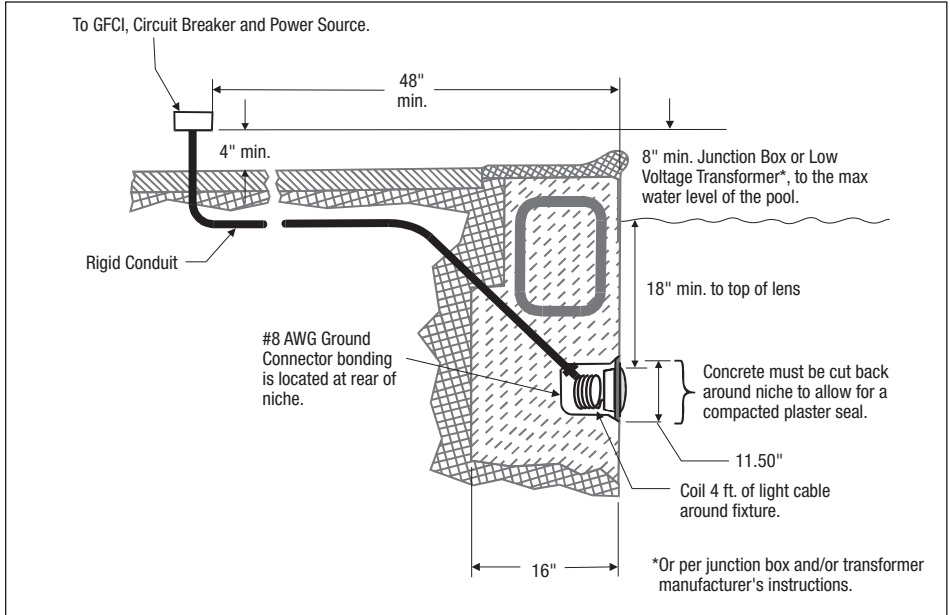

Figure 1. Jandy Digital Color Light Installation
NOTE: The electrician must complete preparatory steps before light fixture is installed. See *Figure 1*.
1. Feed cord through conduit to junction box, leaving at least four (4) feet of cord at the light fixture to coil into the base of the light niche, see *Figure 1*. The four (4) feet of cord allows the light to be serviced after the pool is filled with water.
2. Cut the cord at the junction box, leaving at least six (6) inches of cord to make connections.
3. Strip six (6) inches of the outer cord jacket to expose the three insulated wires. *Be careful not to damage the insulation on the three (3) inner wires.*
4. Install strain relief over cord jacket and connect all three (3) wires to the corresponding circuit wires in the junction box. Install the junction box cover.
2. The junction box (or, for 12 volt models, the low voltage transformer) must be located at least eight (8) inches above water level, at least four (4) inches above ground level or pool deck level, and at least 48 inches from the edge of the pool or spa. See *Figure 1*.
3. The light fixture and all metal items within five (5) feet of the pool must be properly electrically bonded to a reliable point of grounding.
4. The wet niche must be properly installed so that the top edge of the underwater light's lens is at least 18 inches below the surface of the water in the pool. See *Figure 1*.
5. The wet niche must be properly electrically bonded and grounded via the No. 8 AWG ground connector located at the rear of the niche. See *Figure 1*.